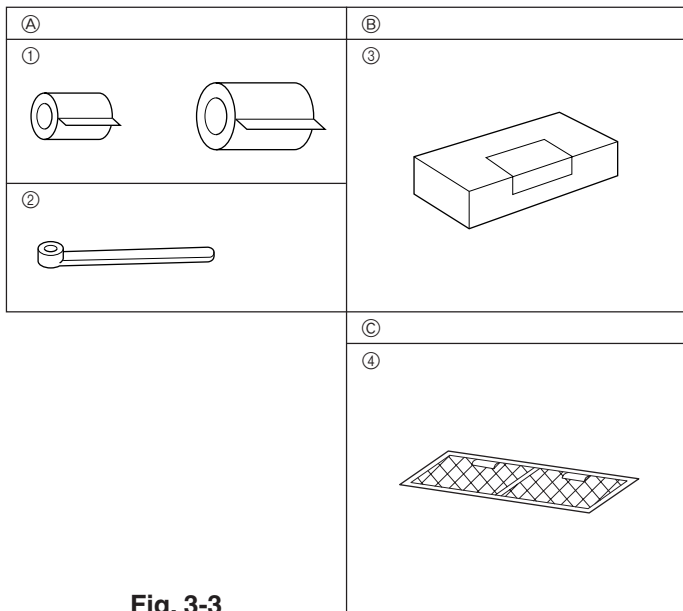

Fig. 3-3
3.3. Checking the indoor unit accessories (Fig. 3-3)